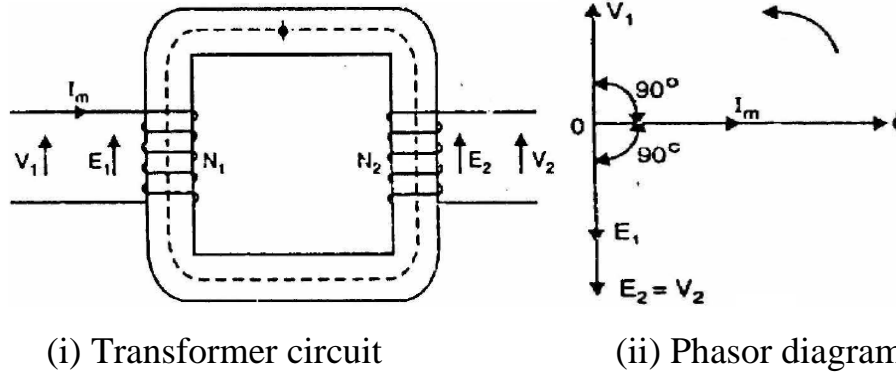

Fig. 10 Ideal transformer at no load
**Winding resistances:** Since the windings consist of copper conductors, it immediately follows that both primary and secondary will have winding resistance. The primary resistance  $R_1$  and secondary resistance  $R_2$  act in series with the respective windings as shown in Fig. 10. When current flows through the windings, there will be power loss as well as a loss in voltage due to  $I \times R$  drop. This will affect the power factor and  $E_1$  will be less than  $V_1$  while  $V_2$  will be less than  $E_2$ .